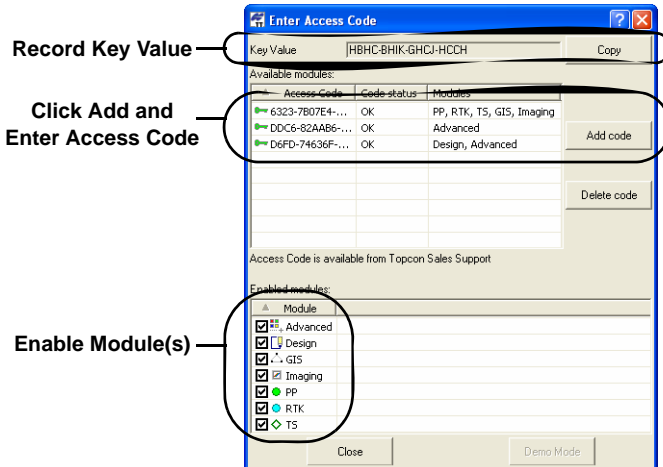

Figure 1-11. Enter Access Code
2. Record the key value of the machine (Figure 1-11 on page 1-9).
4. After receiving the access code, click **Add code** and enter (or paste) the code into the editable field that appears in the *Available modules* table. Press **Enter** or click outside the box to apply. If accepted, available modules will display in the *Enabled modules* field (Figure 1-11 on page 1-9).
- Click the desired module(s) to enable them for Topcon Tools (Figure 1-11). Click **Close**.